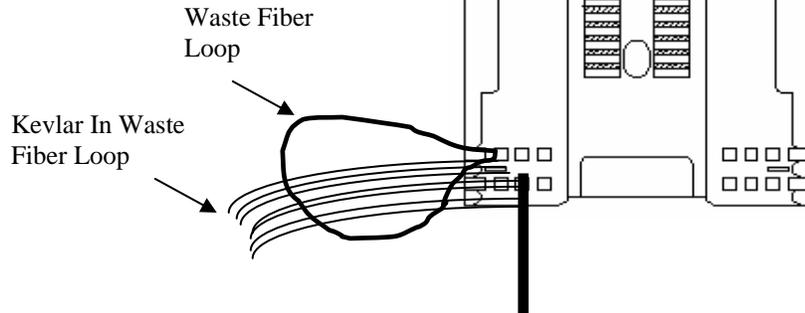

Figure 11 – Gathering Kevlar
Step 11 - Gather the Kevlar of the second OFCC group for set “A” and insert the bundled Kevlar through the loop using the left retention slot (See Figure 11 below).